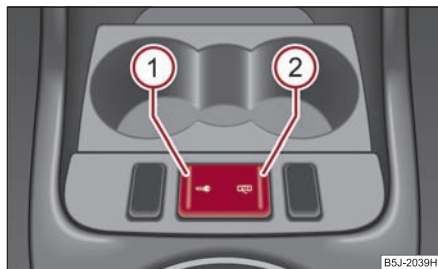

Fig. 37 Button for the central locking system
- Press button **(1)** ⇒ fig. 37. The symbol  in the button comes on.
- Press button **(2)** ⇒ fig. 37. The symbol  goes out in the button.